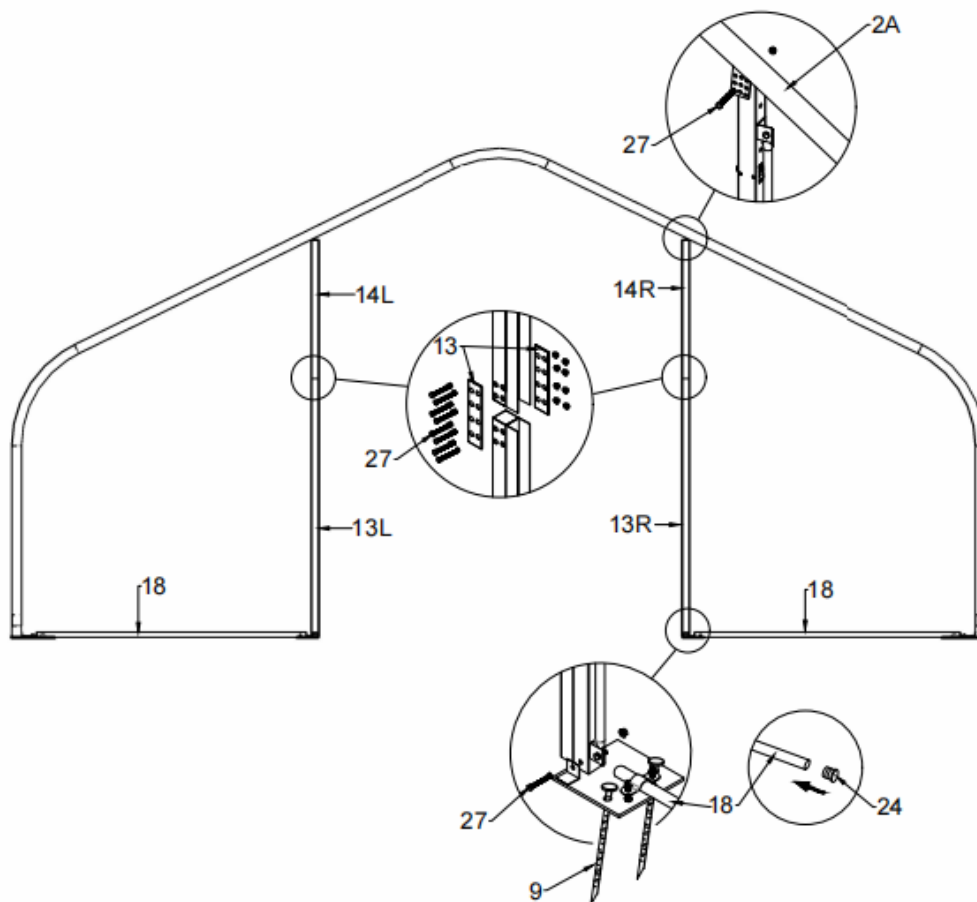

Figure 5
1. After assemble the arches, please assemble the front and back wall as the picture (Figure 5,6,7) shows above.